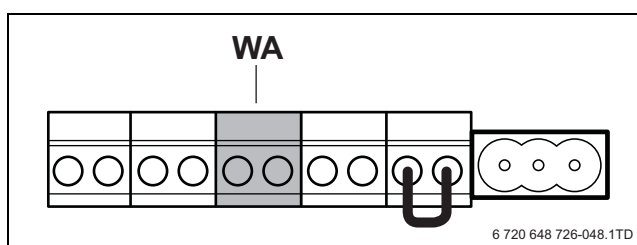

Fig. 49 Terminal strip - WA potential-free heat demand
- It is not possible to connect a thermostat simultaneously to the RC connection and to the terminal for the potential-free heat demand (WA) (→ fig. 49).